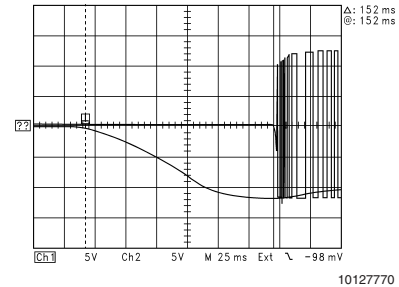

FIGURE 3. Startup Timing Diagram
The LM4651 has an internal soft start feature (see *Figure 3*) that ensures reliable and consistent start-up while minimizing turn-on thumps or pops. During the start-up cycle the system is in standby mode. This start-up time is controlled externally by adjusting the capacitance (C_{START}) value connected to the START pin. The start-up time can be controlled by the capacitor value connected to the START pin given by Equation (1) or (2):